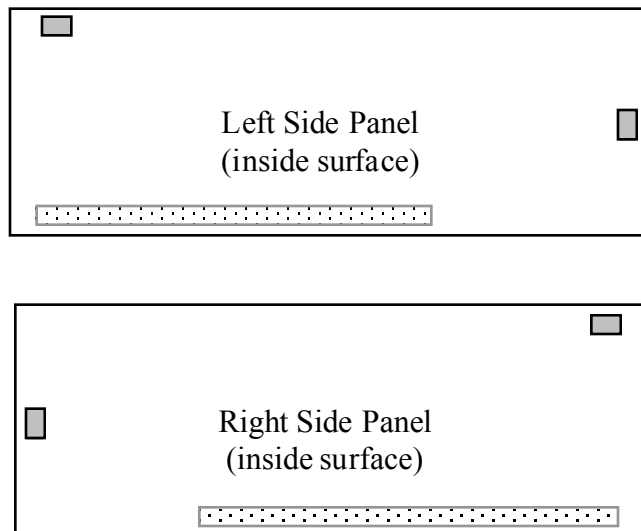
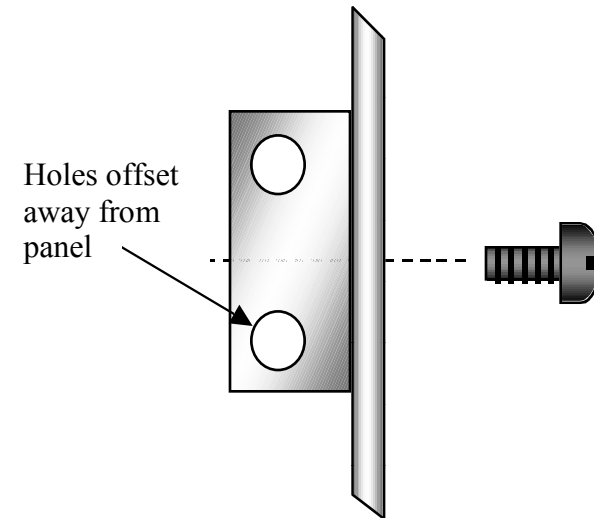

Figure 6-6
Figure 6-7
- Arrange the two panels as shown in Figure 6-6, and verify that they are mirror images of each other. The 2-D fasteners to be attached in the next step go on the *inside* surface, which has bare aluminum areas that were masked during painting.
- Install two 2-D fasteners on each side panel at the locations indicated by small rectangles in Figure 6-6. Use one chassis screw to hold each fastener to the side panel (see Figure 6-7). The two unused holes on each fastener must be offset *away* from the side panel.